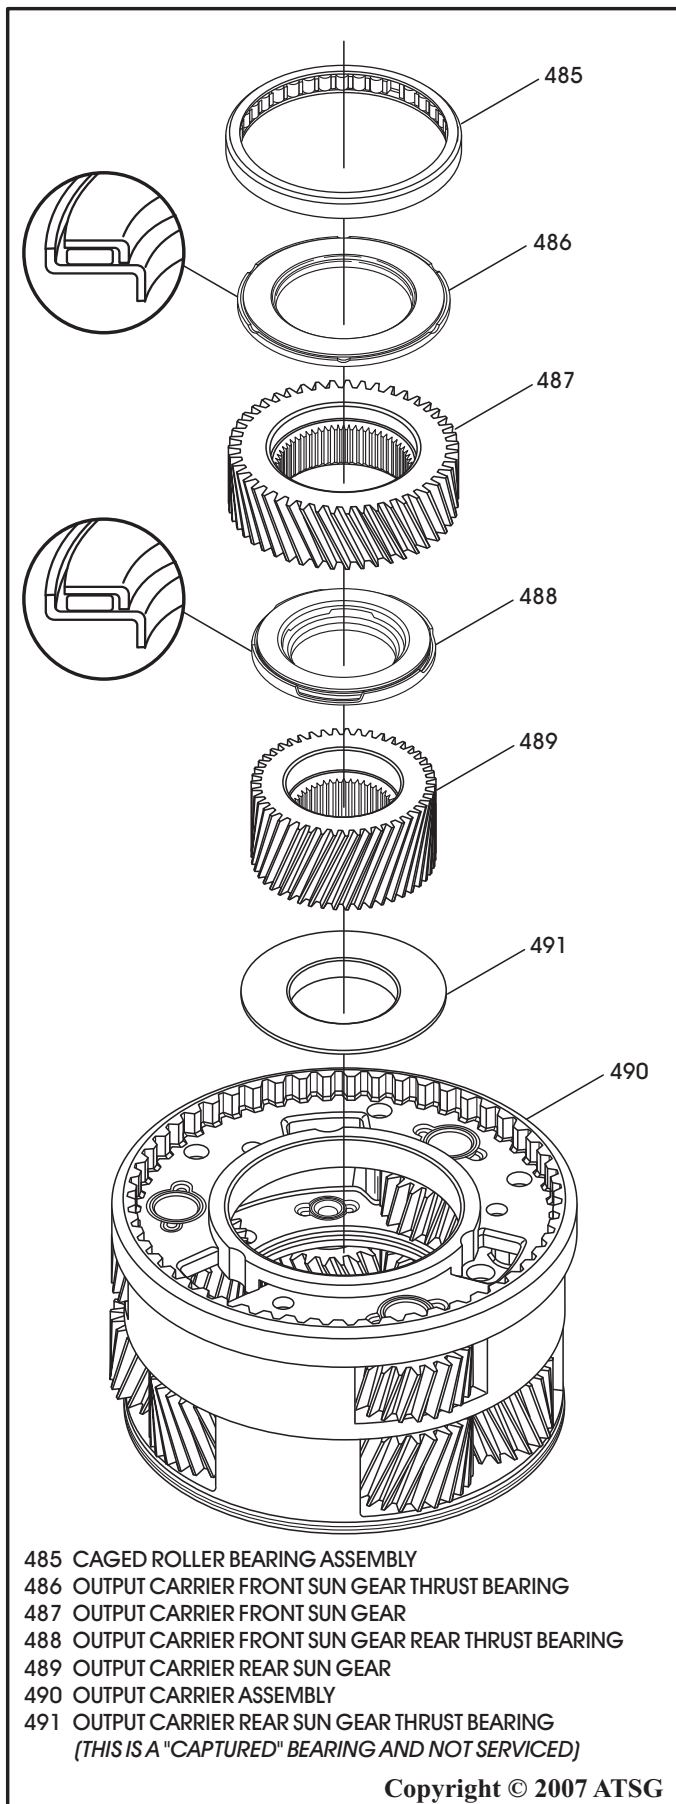

Figure 126
8. Install output carrier rear sun gear, as shown in Figure 126.
9. Install rear sun gear rear thrust bearing in the direction shown in Figure 126.
10. Install the front sun gear in carrier, as shown in Figure 126.
11. Install front sun gear front thrust bearing in the direction shown in Figure 126.